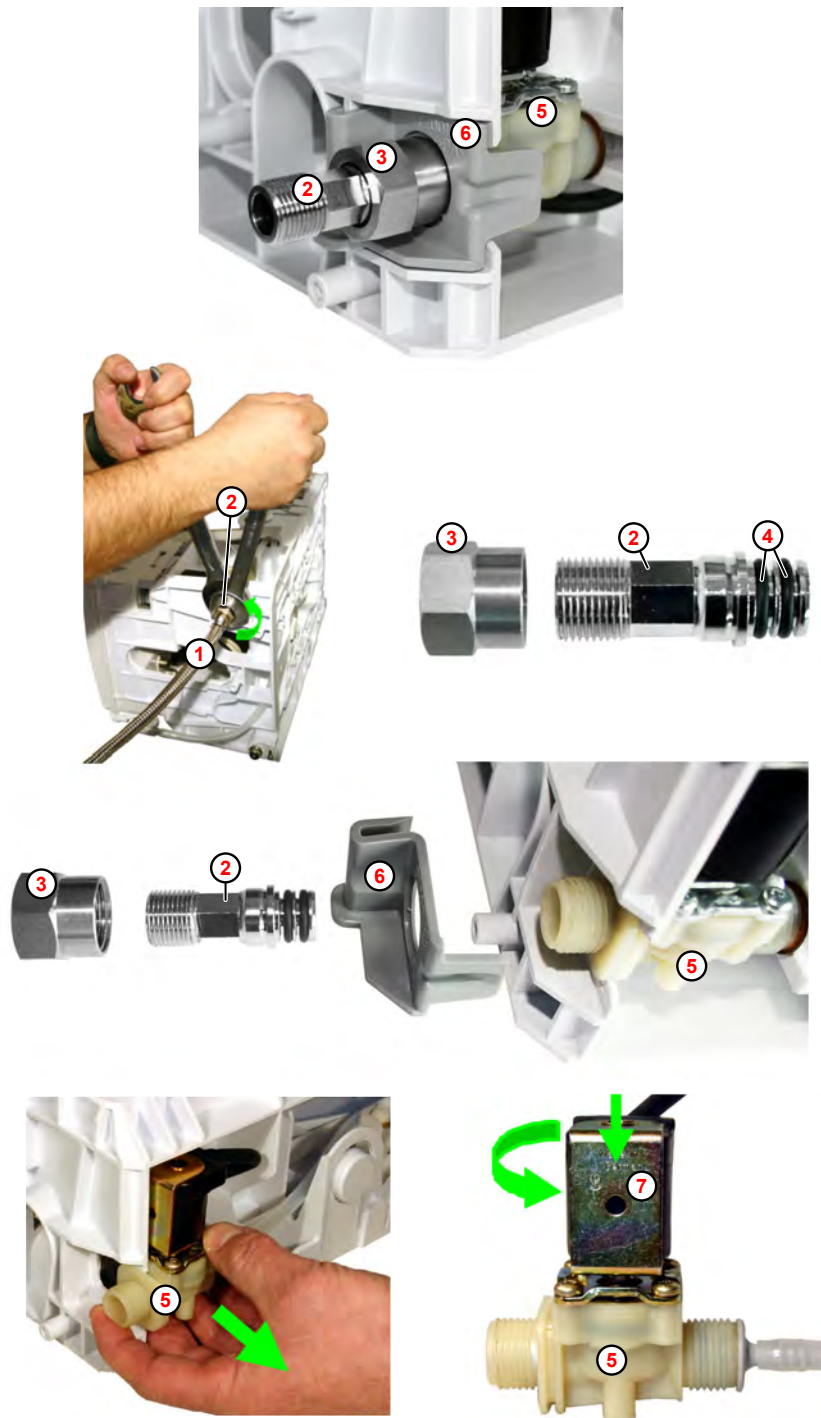

Fig. 17: Solenoid valve disassembly
1. ➤ Unscrew the inlet hose (Fig. 17 , ①).
2. ➤ Screw on the union nut ③ and carefully pull the connection adapter ② out of the valve body ⑤ .
4. ➤ Push the electrical (magnetic) coil (bayonet clutch) ⑦ against the valve body while turning it anticlockwise (to the left - approximately 30°) until the electrical (magnetic) coil is released from the lock.